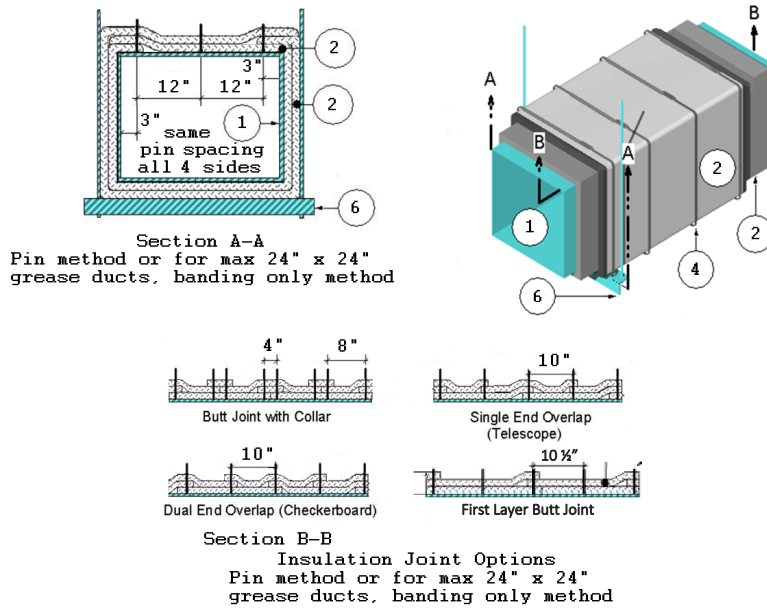
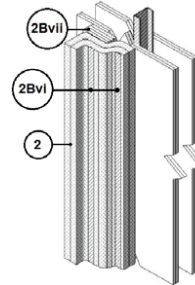

Figure 1. EFS Ductz+ Grease Duct Insulation System
Figure 6. Wall Anchoring
- A. STANDARD INSTALLATION – Apply both layers of duct insulation with transverse and longitudinal joints as shown in Figure 1. For rectangular grease ducts (Item 1), locate inner layer longitudinal joints (Figure 1) at a corner of the grease duct (Item 1), and offset the outer layer joint (Figure 1) to a different corner. For horizontal sections, ensure the longitudinal joints are placed at the top corners. For round grease ducts (Item 1), locate inner layer longitudinal joints and outer layer longitudinal joints 90° apart; for horizontal sections, center the joints on the top of the grease duct (Item 1). Use a min. 4 in. overlap at all insulation joints. Optional: for rectangular ducts only, compressed butt joints may be used on the first layer and horizontal sections only. Transverse butt joints with collar shall use a min. 8 in. wide collar with min. 4 in. overlap on each side of the butt joint. Use blanket, available in various widths, fully encapsulated with a polypropylene foil scrim. Cover all visually exposed ends and edges of duct insulation with nominal 3 in. wide aluminum foil tape. Tape all joints (inner and outer layers; longitudinal and transverse) with nominal 3 in. wide aluminum foil tape (reference Figure 2).
- iv. Insulation Anchors: Floor/Ceiling Application – Use min. 16 GA, min. 1-1/2 in. wide steel sheet strips, and min. 1/4 in. diameter hex-head concrete anchors, spaced to match the longitudinal pin spacing shown in Figure 1. Position the floor/ceiling anchors over a min. 6 in. wide horizontal flange of the flared duct insulation (Item 2) which is in contact with the floor/ceiling assembly. Position the anchors such that the duct insulation extends a min. 1-1/2 in. beyond the anchors. Refer to Figure 6.
- v. Insulation Anchors: Wall Application – Use min. 16 GA, min. 1-1/2 in. wide steel sheet strips. For concrete or masonry wall, fasten the duct insulation (Item 2) to the wall using min. 1/4 in. diameter hex-head concrete or masonry anchors as applicable, and spaced to match the longitudinal pin spacing shown in Figure 1. For gypsum wall, use min. 1/4 in. diameter hex-head self-drilling screws spaced to match the longitudinal pin spacing shown in Figure 1. Position the wall anchors over a min. 6 in. wide flange of the flared duct insulation (Item 2) which is in contact with the wall assembly. Position the anchors such that the duct insulation extends a min. 1-1/2 in. beyond the anchors. Refer to Figure 6. For steel stud and gypsum wall attachment, ensure that studs are positioned in line with the wall anchors.
- vi. Gypsum Anchor Protection Boards: For installation onto steel stud and gypsum wall, use three layers of 6 in. wide, 5/8 in. Type X gypsum board strips, mounted vertically onto the gypsum wall under the duct insulation (Item 2) and adjacent to the wall anchors (Item 2Bvi) as shown in Figure 6. Attach the gypsum wall anchor boards with #10 drywall Type G laminating screws spaced 24 in. on center (oc). Secure the insulation blanket (Item 2) to the gypsum wall anchor board using wall anchors (Item 2Bvi) consisting of min. 16 GA, min. 1-1/2 in. wide steel sheet strips and #10 drywall Type G laminating screws spaced to match the longitudinal pin spacing shown in Figure 1.